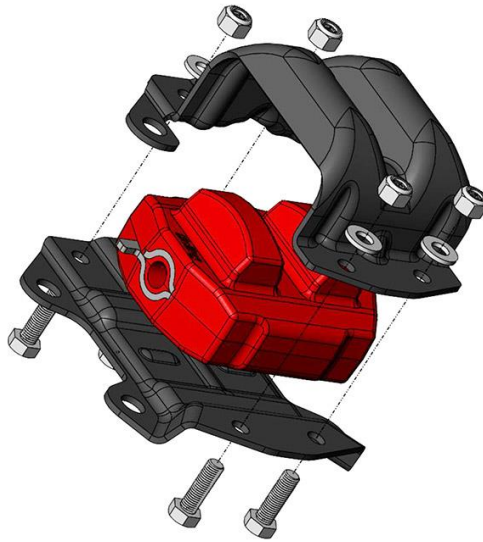

Figure 1
2. With the above conditions met, fasten the upper and lower clamshell halves together using the 5/16" hardware included with each clamshell housing. Install the fasteners in the orientation shown in **Figure 1** on the next page (LT clamshell shown, LS clamshell similar).